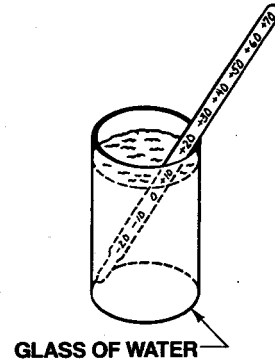

Figure 3
- In refrigerator section, place thermometer in a glass of water and place in middle of refrigerator. Wait 5-8 hours. If temperature is not 38° to 40°F ($+3^{\circ}$ to $+4^{\circ}\text{C}$), adjust the control, one number at a time. Check again after 5-8 hours. See Figure 3.